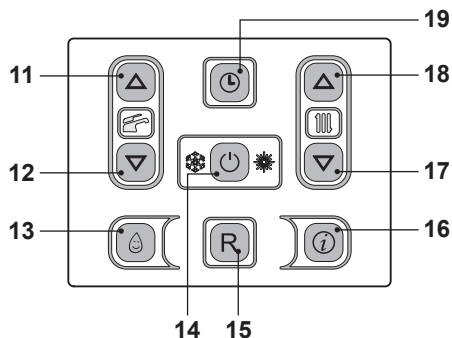
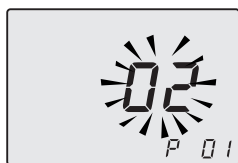

Fig. 8.3
Fig. 8.4
- Enter in "programming mode" by pressing keys 14 - 17 - 18 (Fig. 8.3) for 10 seconds at the same time until the letters **P01** are displayed on the LCD display, indicating that "parameter 01" (Fig. 8.4) has been
- By pressing key 14 (Fig. 8.3) confirmation of the inserted value is obtained.
- Press keys 17 or 18 (Fig. 8.3) to exit without changing the value.